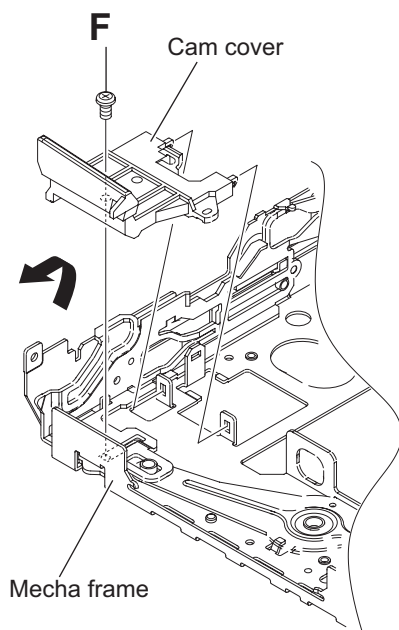

Fig.11
3.2.6 Removing the slide cam (L) (See Fig.11 to 13)
- From the top side of the mecha frame, remove the screw **F** attaching the cam cover. (See Fig.11.)
- Take out the cam cover from mecha frame in an upward direction. (See Fig.11.)